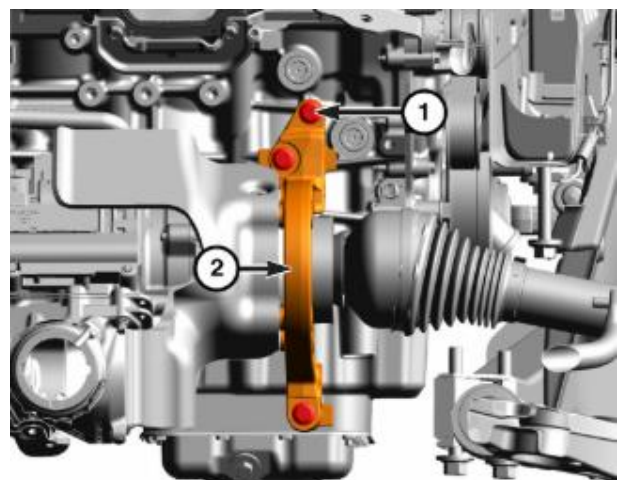

Figure 11 – PTU Support Bracket and Bolts
22. Remove the bolts (2) holding the PTU support bracket (1) to the engine block and the oil pan (Figure 11).
5. Place the PTU support bracket in position on the PTU (Figure 11).